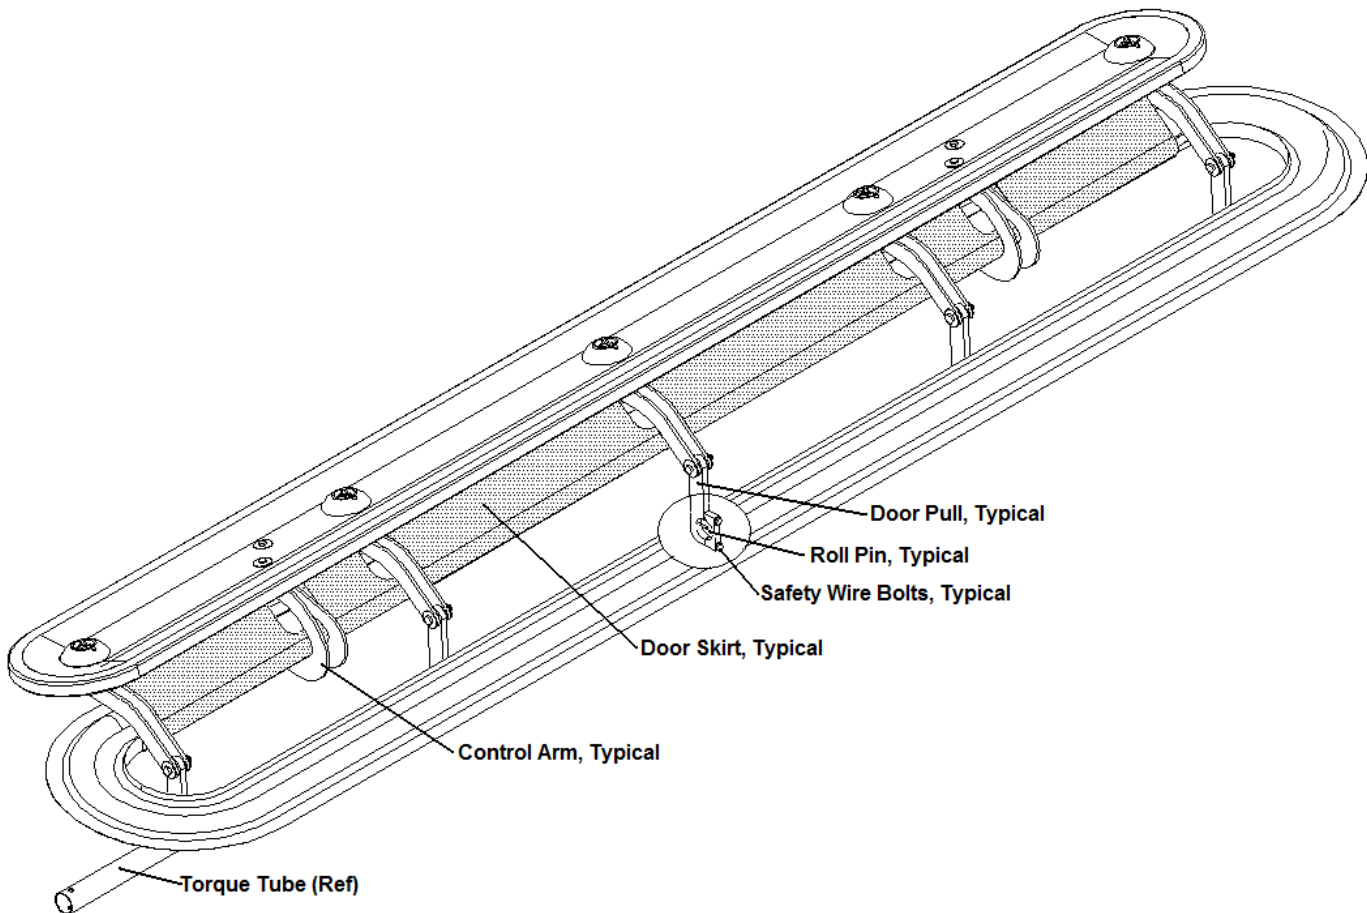

Figure 1: Typical Door Components
9. Disconnect control arms from doors by removing two (2) bolts, washers and nuts securing control arm bracket to door (Figure 1). Allow control arms and brackets to pivot out of the way inside tank.
12. Cut safety wire, remove two (2) bolts and roll pin from each door pull at torque tubes (Figure 1) and discard.
26. Install door skirt (Table 3) on door as shown in Figure 1 and Figure 5 with Barge Cement, follow directions on container. Smooth out all bubbles and wrinkles in skirt with a spreader or roller. It is permissible to trim skirt a maximum of 0.13" to clear door adjustment screws at door pulls as necessary.
30. Install control arm brackets to doors using hardware from Table 4 as shown in Figure 1 and Figure 3. Apply 732 Sealant to mating sides of washers and brackets prior to installation. Tighten bolts, DO NOT over tighten, damage to the composite may occur.
34. Install door assembly by attaching Item 7 (Figure 4) to torque tube using roll pin (Figure 1) as an alignment device. Install clamping section of pull with supplied bolts and washers.
35. Torque two (2) door pull to torque tube clamping bolts in accordance with standard practices stated in ICA or MM and safety wire with 0.032 stainless steel safety wire.